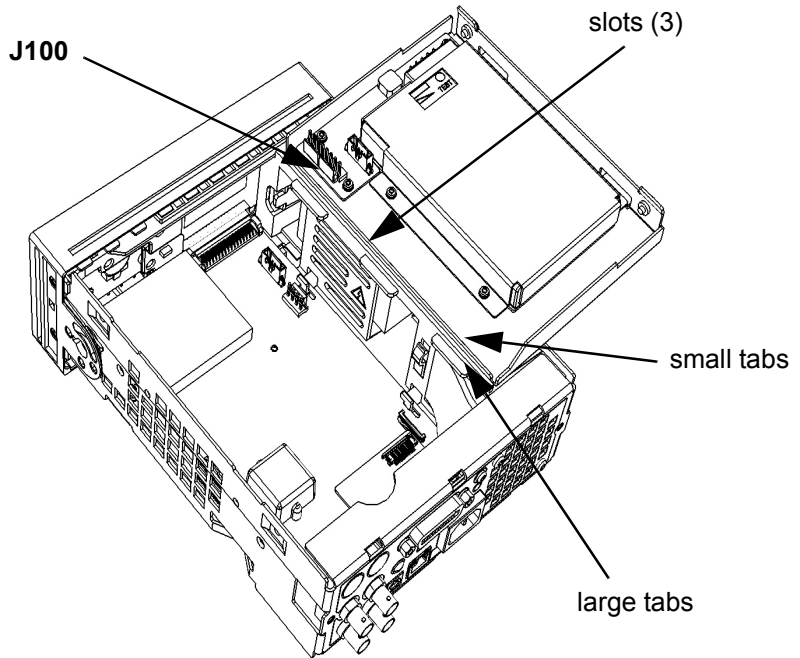

Figure 2-12. Battery folded in the service position
- Lift up carefully on the two side-overlapping tabs on the left side of the battery assembly and separate the assembly from the three large tabs holding it on the right side. Lay the assembly on its back to the right side of the chassis and place the three small tabs (on the back side of the three large tabs) into the three slots on the assembly deck. (See Figure 2-12.)**